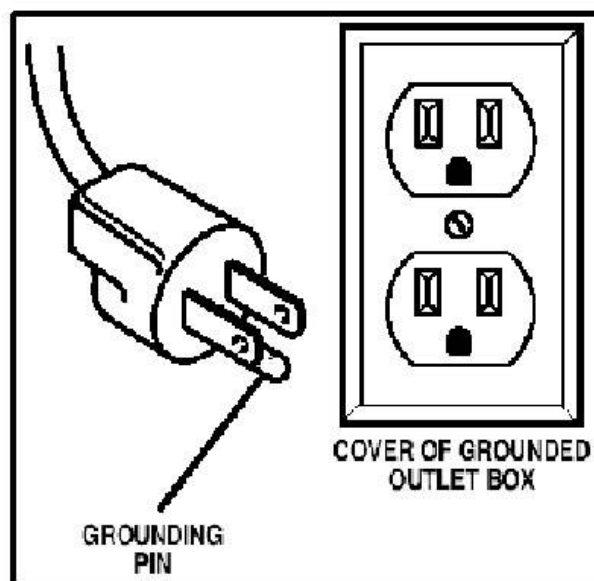

Figure 1
- This cooktop features a pilotless electric ignition for energy savings and reliability. It operates on a 120 volt, 60 Hz power supply. A separate circuit, protected by a 15 amp time delay fuse or circuit breaker, is required. For personal safety, the cooktop must be properly grounded. A properly-grounded 3-prong receptacle (see Figure 1) should be located 12" below the countertop and within reach of the cooktop's four-foot power cord. For maximum safety, the power cord must be plugged into an electrical outlet that is correctly polarized and properly grounded.